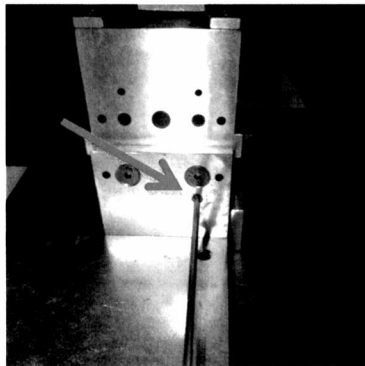

Figure 3.
- 4.) Insert the free end of the float s/a into the X-1759 "Float Rod Cutter" (Figure 3).